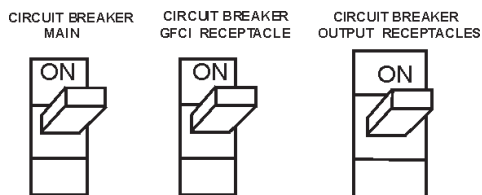

Figure 52. Main and GFCI Circuit Breakers
20. If there are no abnormal problems shown on the "MPEC" LED display, turn the MAIN, GFCI and LOAD circuit breakers to their ON position (Figure 52).